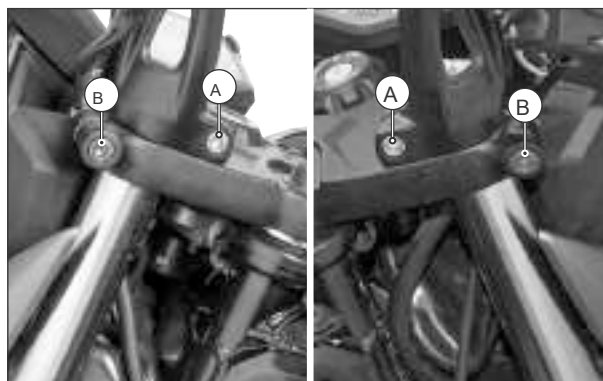

Fig. 2.80
- ! Loosen hexagonal socket head cap screws (A) (M8x30 - 2 nos.) from the mounting of handle bar assembly with the front fork. (Fig. 2.80)
- ! Similarly, loosen hexagonal socket head cap screws (B) (M8x45 - 2 nos.) from the mounting of lower bracket complete (fork upper mounting). (Fig. 2.80)